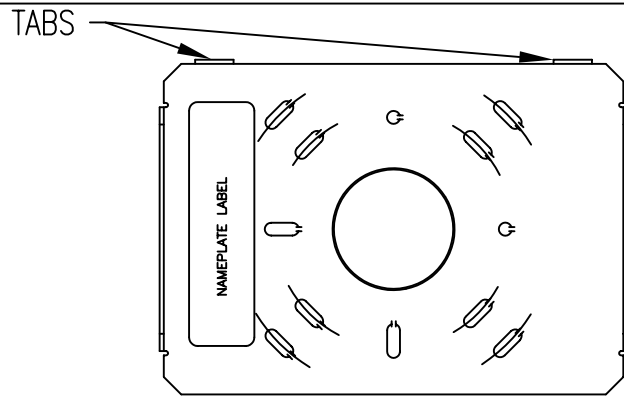

FIGURE 2
2. Determine mounting position of unit and remove appropriate knockouts from backplate. Attach backplate to outlet box with tabs in the top position. SEE FIGURE 2